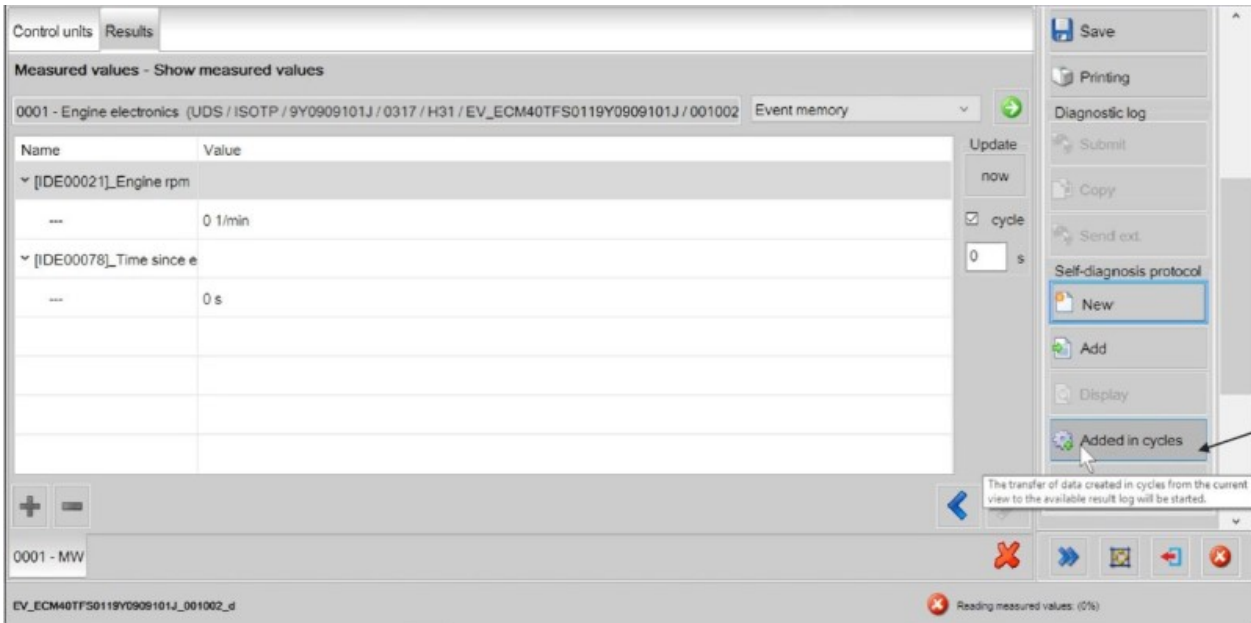

Figure 5
5) Select Added in cycles (Figure 5)